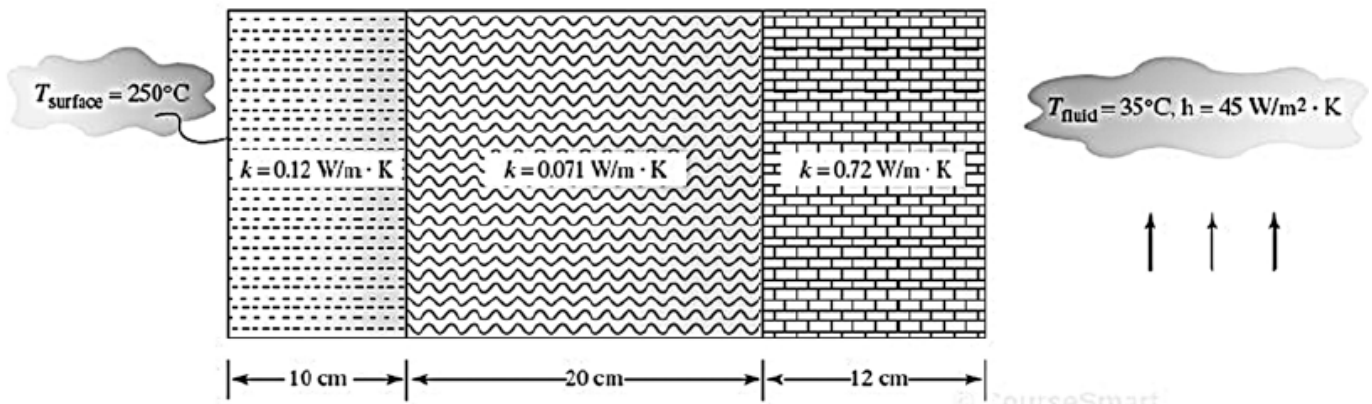

Figure P7.1
1. A wall of an industrial oven consists of three different materials, as shown in **Figure P7.1**. The first layer is composed of 10 cm of insulating cement with a thermal conductivity of $12 \text{ W/m} \cdot \text{K}$. The second layer is made from 20 cm of S-ply asbestos board with a thermal conductivity of $0.071 \text{ W/m} \cdot \text{K}$. The exterior consists of 12-cm cement mortar with a thermal conductivity of $0.72 \text{ W/m}^2 \cdot \text{K}$. The inside wall temperature of the oven is 250°C , and the outside air is at a temperature of 35°C with a convection coefficient of $45 \text{ W/m}^2 \cdot \text{K}$. Determine the temperature distribution along the composite wall.